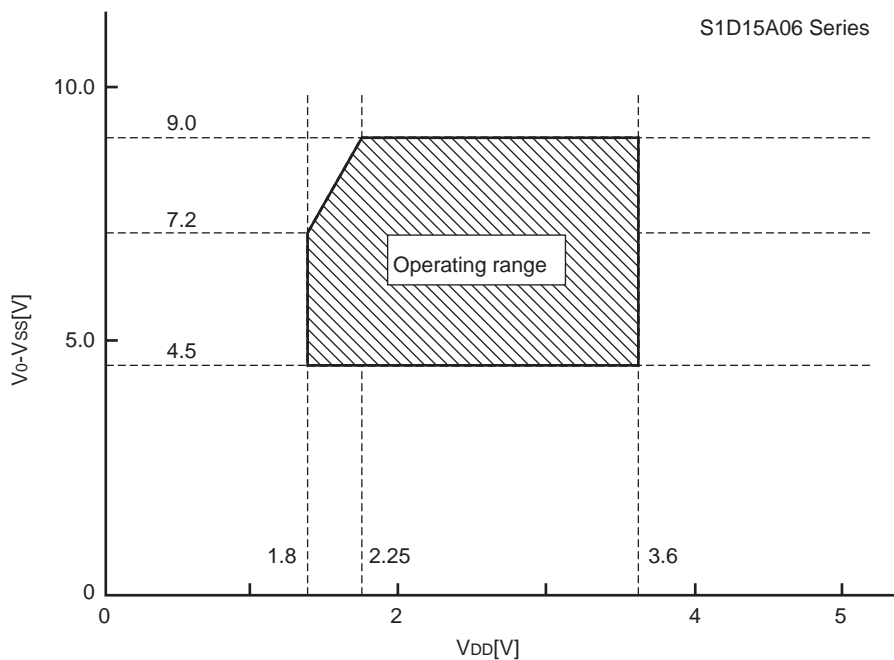

Figure 21
- * 2 : See Figure 21 for the operating voltage range of V_{DD} and V_0 systems. It is applicable when an external power supply is used.
- * 3 : A0, D0 to D5, D6 (SCL), D7 (SI), \overline{RD} (E), \overline{WR} (R/ \overline{W}), CS, CL, C86, P/S and \overline{RES} pins. $V_{IH} = 0.8 \times V_{DD}$ to V_{DD} , $V_{IL} = V_{SS}$ to $0.2 \times V_{DD}$ when $V_{DD} = 1.8V$ to $2.7V$.
- * 5 : A0, \overline{RD} (E), \overline{WR} (R/ \overline{W}), CS, C86, CL and RES pins.
- * 6 : It is applicable when D0 to D5, D6 (SCL) and D7 (SI) pins are placed in high impedance.
- * 7 : It represents the resistance value to be employed when 0.1V is applied across the output pin SEGn or COMn and respective power terminals (V_1 , V_2 , V_3 and V_4). It must be selected within the operating voltage range (3).